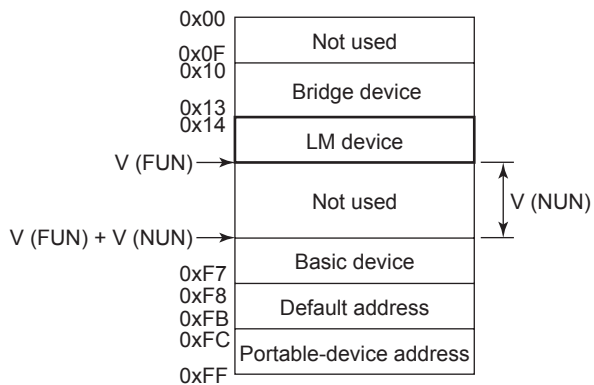

Figure A7.3 Node Address Ranges
- (3) In the LAS settings of the digitalYEWFO, set the values of V(FUN) and V(NUN) so that they include the node addresses of all nodes within the same segment. (Refer to Figure A7.3.)